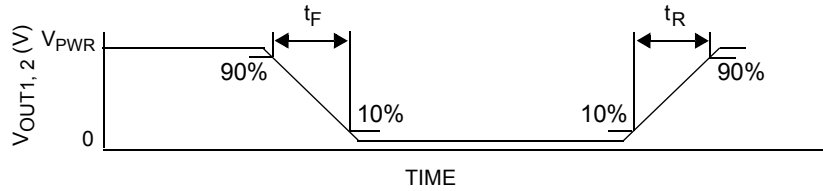

Figure 6. Output Switching Time
26. Rise Time is from the 10% to the 90% level and Fall Time is from the 90% to the 10% level of the output signal with $V_{PWR} = 14\text{ V}$, $R_{LOAD} = 3.0\text{ ohm}$. See Figure 6, page 9.